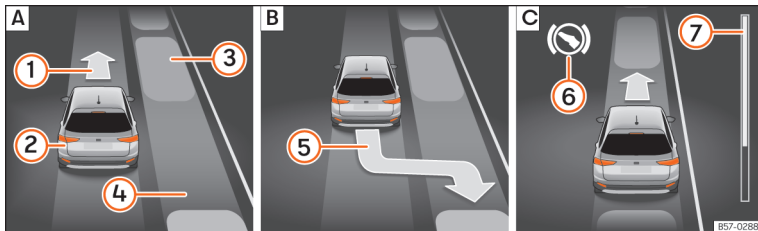
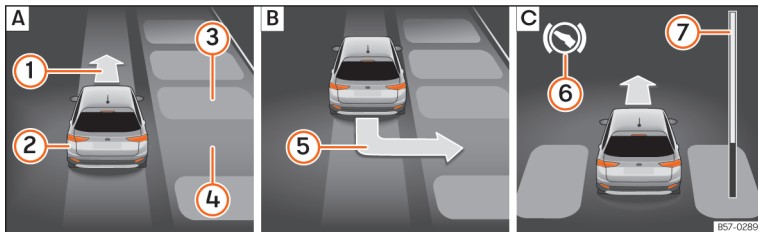

Fig. 251 On the instrument panel display: perpendicular parking. **A** Finding a parking space. **B** Parking position. **C** Manoeuvring.
Fig. 252 On the instrument panel display: parallel parking. **A** Finding a parking space. **B** Parking position. **C** Manoeuvring.
Key to **Fig. 251** and **Fig. 252**:
» **Fig. 251** ⑦ and » **Fig. 252** ⑦ on the screen of the instrument panel displays the relative distance to be covered. The greater the distance, the fuller the progress bar. When driving forward, the content of the progress bar decreases upwards, and when reversing, it decreases downwards.
2.	Look at the display on the instrument panel to see if the space has been detected as "appropriate" and if the correct position for parking has been reached » Fig. 251 B or » Fig. 252 B. The space is considered "appropriate" if the display on the instrument panel shows the message to park 5.
Reverse until the ParkPilot continuous signal is heard. OR: reverse until the instrument panel displays the message to go forwards » Fig. 251 C or » Fig. 252 C.
The Park Assist system steers the vehicle forward and back until it centres it in the space » Fig. 251 C or » Fig. 252 C.